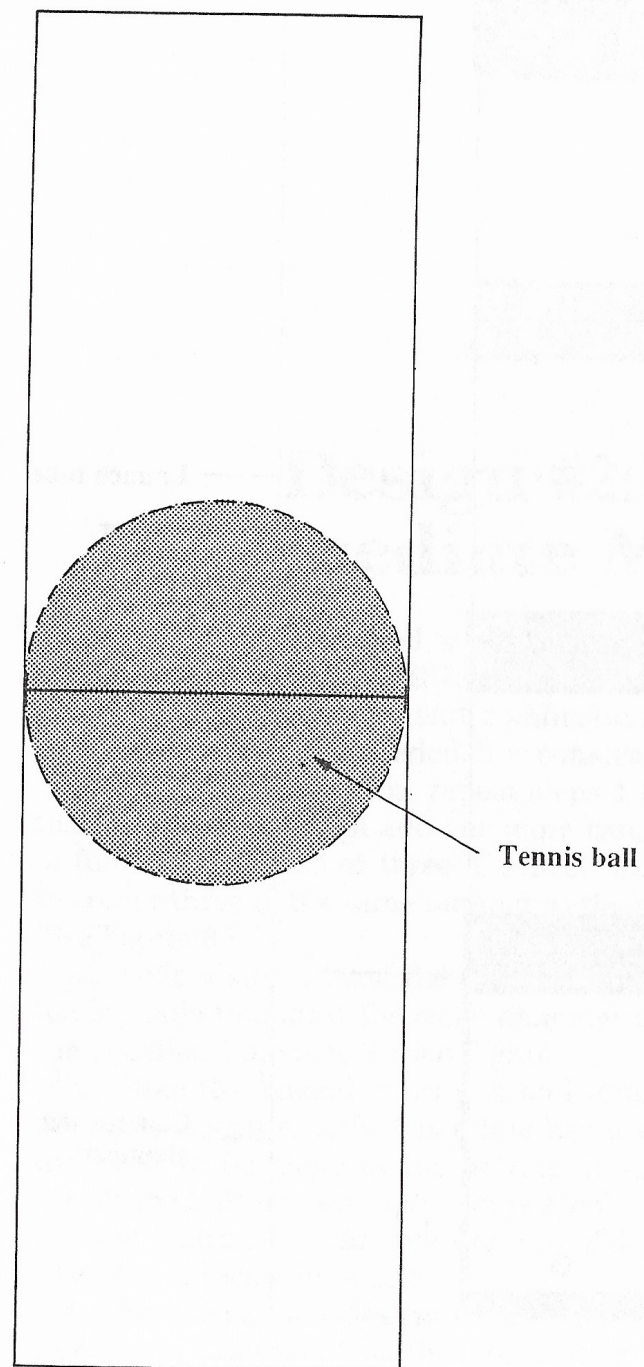

Figure 6
7. Connect the three launch tube sections with duct tape. Take two sections and put them end to end with a tennis ball in the middle of the junction (see Figure 6). Put several layers of tape around this junction point. The tennis ball will align the tubes properly so that it can move smoothly through the mortar during operation, and it will add support while taping. Attach the third section to the first two in the same manner. This is your launch tube.
4. Connect all three of the paint cans. The best way to do this is to solder them together at the joints and then epoxy over these joints to ensure an airtight seal. Align the joints with a tennis ball as with the basic and intermediate models. (See Figure 6.)